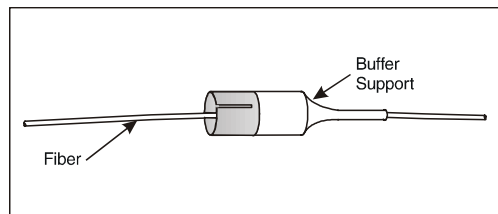

Figure 3. Install Buffer Support on Buffer Tubing
3. **PLACE BUFFER SUPPORT ONTO FIBER** Slip the buffer support onto the buffer tube covering the fiber (Figure 3).